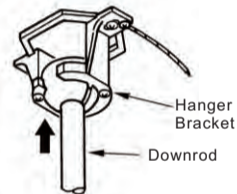

Fig.13
Step 5: Now lift motor assembly into position and place hanger ball into hanger bracket. Rotate until the check groove has dropped into the registration slot and seats firmly. Rod should not rotate if this is done correctly(Fig.13)